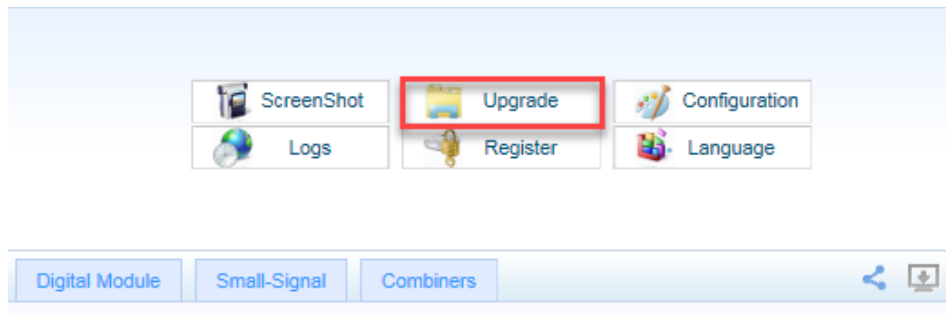

Figure 9-2 Software Upgrade 1
1. Log into the WebOMT on the Master AU. Click the **Upgrade** button on the main page to navigate to the software upgrade page. See Figure 9-2.